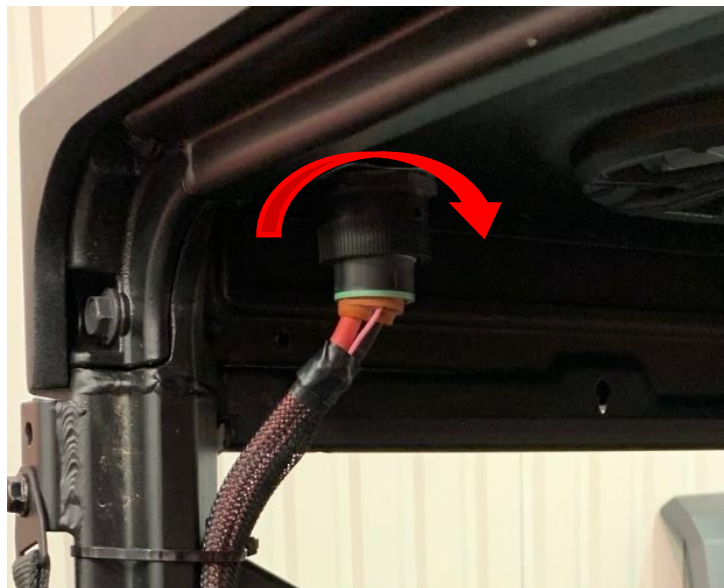

Figure 13: Align connector terminals and rotate 1/4 turn.
14. Line up the terminals on the chassis harness connector with the bulk head connector located on the back driver's side corner of the top. Plug the connector in and rotate the ¼ turn collar to lock the connector together. See Figure 13.